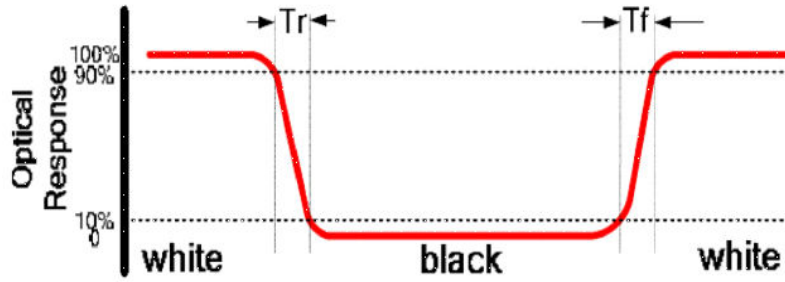

Fig.2: Measuring method for Contrast Ratio surface luminance, Luminance uniformity, CIE (x,y) chromaticity
Note1: Contrast Ratio (CR) is defined mathematically by the following formula. For more information see FIG 2:
Note 2: Surface luminance is the LCD surface from the surface with all pixels displaying white. For more information see FIG 2.
luminance of 9 points luminance by minimum luminance of 9 points luminance. For more information see FIG 2.
Note 5: CIE (x, y) chromaticity, The x,y value is determined by screen active area position 5. For more information see FIG 2.